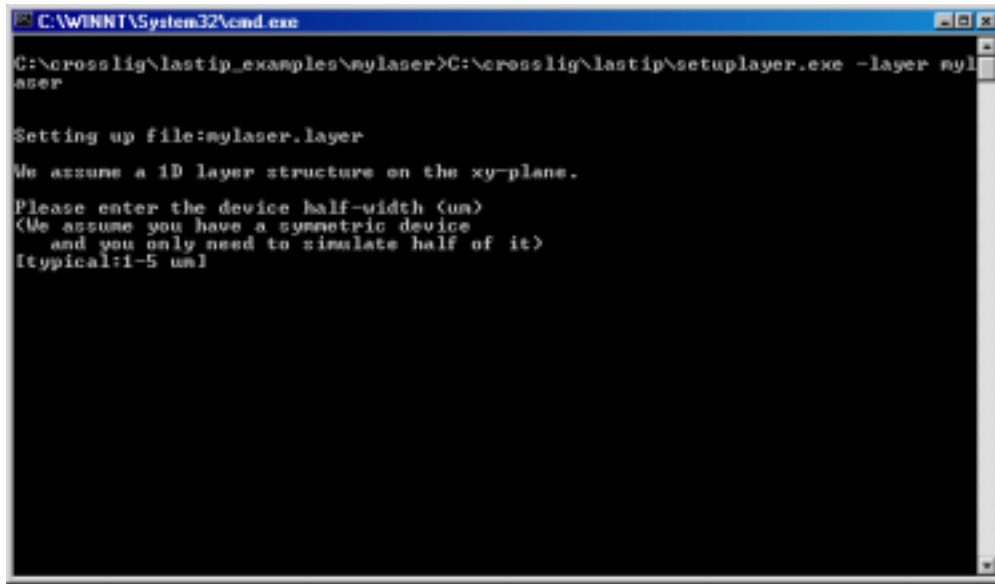

Fig. 7a: EdgeSetupLayer: MS-DOS dialog window.
- (1) Start "SimuLastip" located in the LASTIP programs folder. From the menu, select "File > New Project". Choose any name other than gaas10, e.g., "mylaser" and the directory "C:\crosslig\lastip_examples\mylaser". Select only the .layer file. The new file mylaser.layer will appear in the right-hand-side window, but it is still empty. Right-click on mylaser.layer and select "EdgeSetup layer" (overwrite). An input dialogue will start requesting all data required for the simulation (Fig. 7a). The input goes layer by layer starting at the bottom. Take your time and answer each question carefully. A wrong answer may later cause trouble with the simulation. For your reference, all questions and answers are given in Appendix A1. However, try not to look up the answers and use the device information given above. For the active layer, the software requires two material macros containing different information (active: AlGaAs/AlGaAs and bulk: GaAs). At the end, pick 20 mesh points. The maximum average mesh spacing should be about 20% of the largest layer thickness, pick 0.2 in our example.